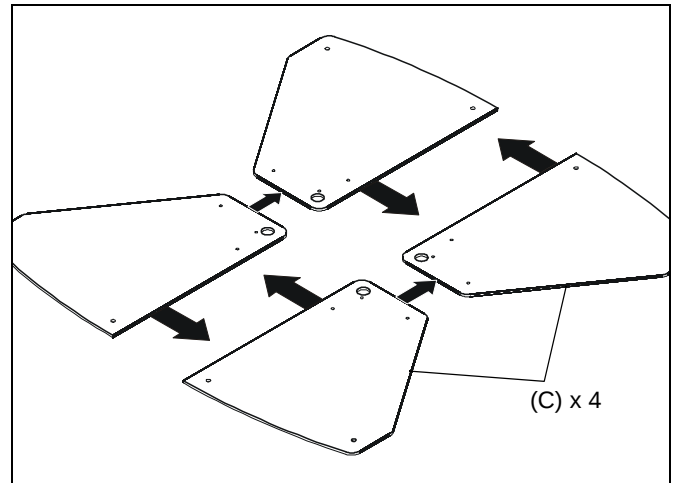

Figure 6
2. Gather four base pieces (C) as shown in Figure 6 and push them together until the edges meet.